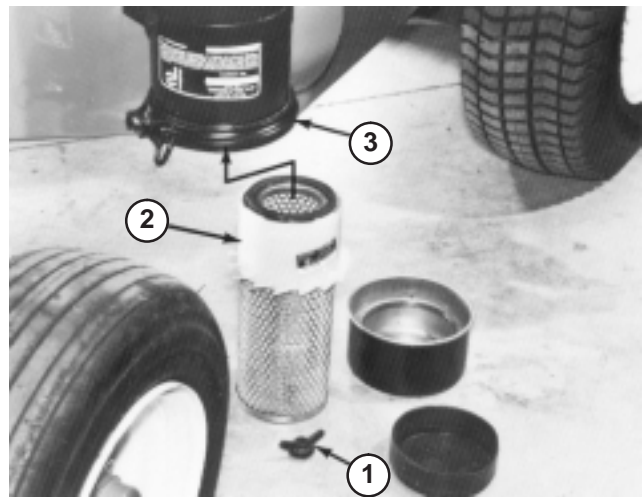

Figure 28
2. Remove wing nut w/gasket and slide filter element out of air cleaner body (Fig. 28).